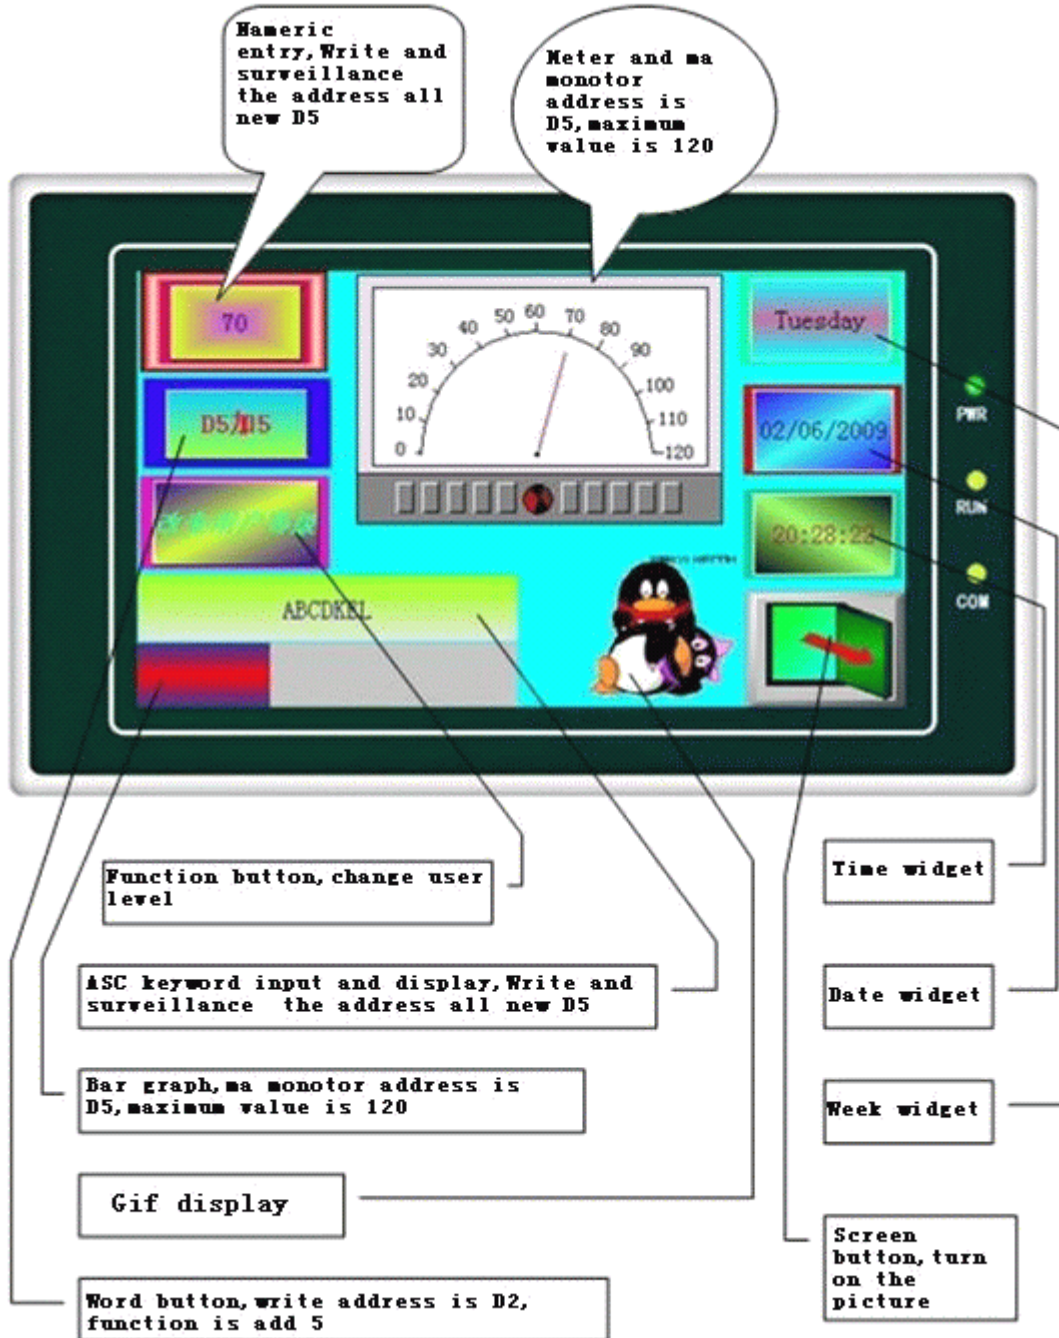

Figure 6-2 Example of OP84.3A off-line simulation
As shown in figure 6-2 below, you can carry out the off-line simulation of edited configuration. Use mouse to click value display and input. It can be seen that pointer of instrument panel points to 70 if you enter 70. The project designer can better check and find some problems in project configuration screen through off-line simulation, such as the correctness of selected monitoring address and relationship between controls, to ensure good preparations.
- ✓ Click “Save” to save the project. Then, select “Off-line Simulation” in option “Download” in menu bar to pop up a screen as shown in figure 6-2. The introduction of off-line simulation example ends.